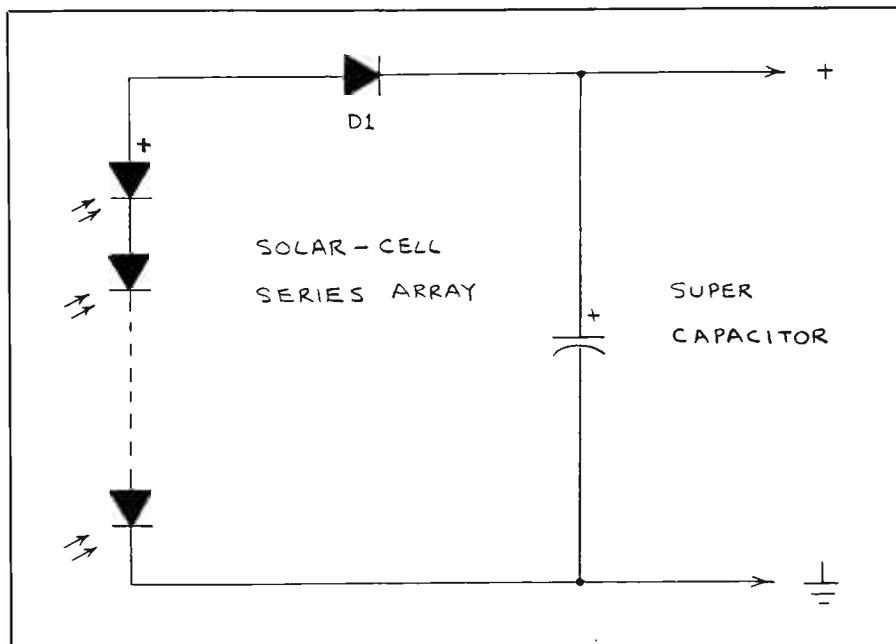

Fig. 5. Charging a super capacitor with a solar-cell array.
• *Solar-Cell Charger.* A series of solar cells can easily be used to charge a double-layer capacitor to any point between 0.5 volt (one cell) to 5 volts (10 cells). Figure 5 shows how to insert a protective diode between a solar-cell array and a super capacitor to prevent the latter from discharging through the solar cells when they are not activated by light.